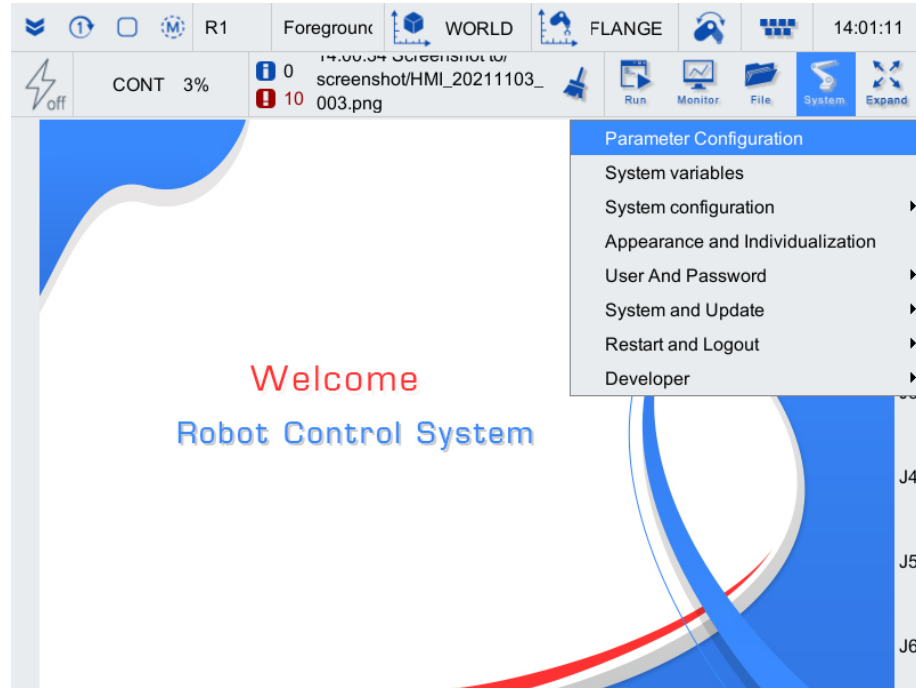
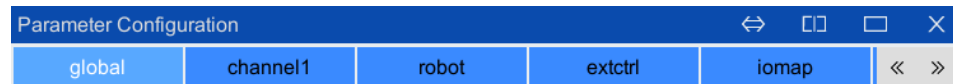

Figure 4-1 [Parameter configuration] selection list
Figure 4-2 [Parameter configuration] tab display area
Step 1. As shown in Figure 4-1, select [System/Parameter Configuration] in the upper right corner of the main interface to enter each [Parameter Configuration] interface shown in Figure 4-2.